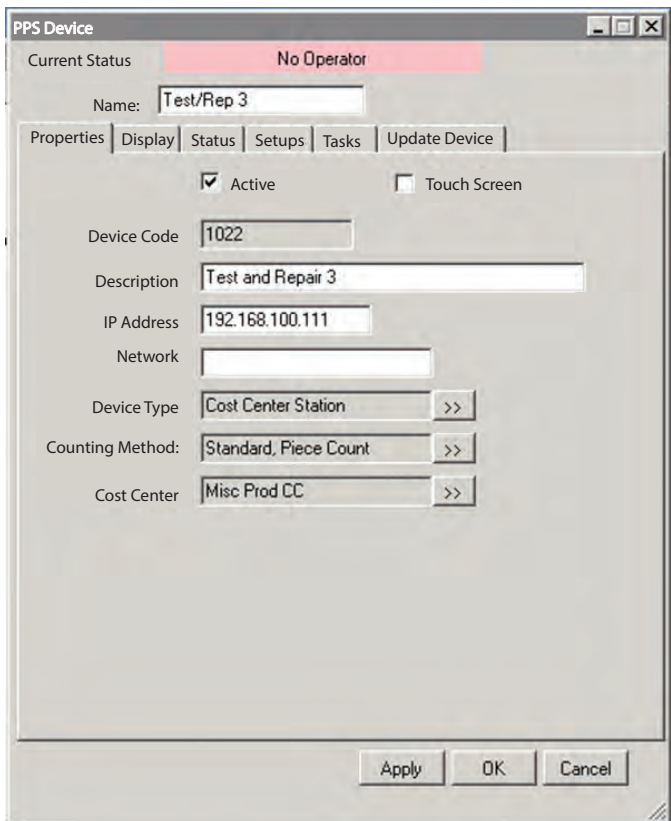

Figure 54. PPS Device dialog: Properties tab.
6. Click **New** to open a blank **PPS Device** dialog (see Figure 54).